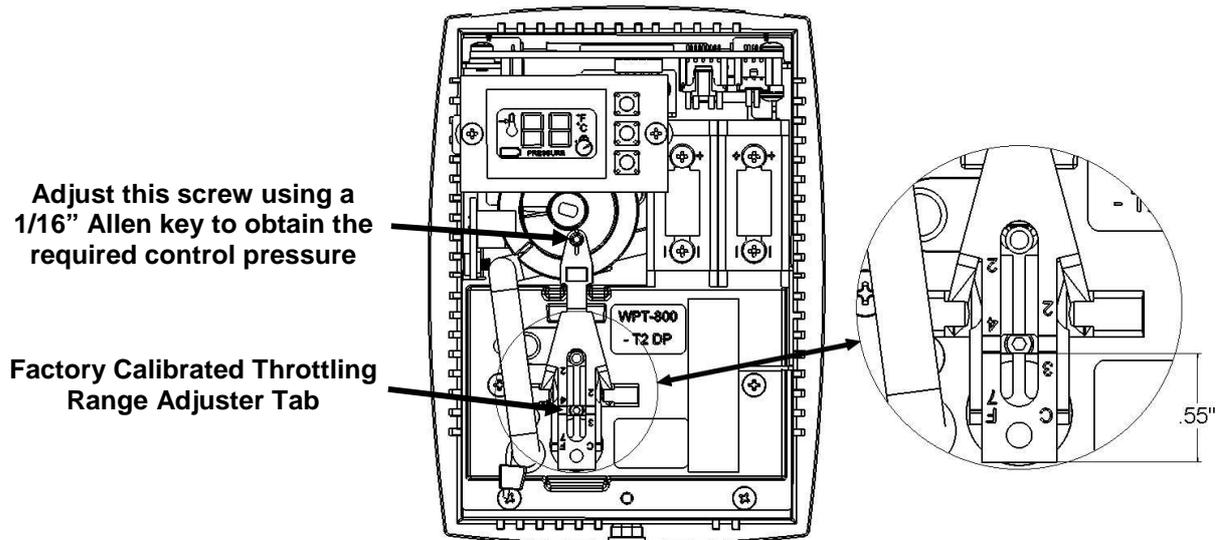

Figure 6. WPT Calibration
NOTE: The black throttling range adjuster has been factory set to the location marked on the lever as shown in Figure 6. The factory setting provides a Throttling Range (TR) of 4°F. This TR adjuster **MUST NOT BE MOVED** to ensure proper operation and accuracy of the WPT.
5. Use a 1/16" hex Allen wrench and very carefully turn the calibration set screw on the thermostat lever, shown in Figure 6, until the branch pressure is equal to the desired control point. Use extreme caution not to allow the lever to rotate sideways while adjusting the setscrew. Damage to the bi-metallic spring can result if the end of the lever is allowed to move left or right by more than 1/16".
4. Use a hex Allen wrench and very carefully turn the calibration set screw on the thermostat lever, shown in Figure 6, until the branch pressure is equal to the desired control point. Use extreme caution not to allow the lever to rotate sideways while adjusting the setscrew. Damage to the bi-metallic spring can result if the end of the lever is allowed to move left or right by more than 1/16".